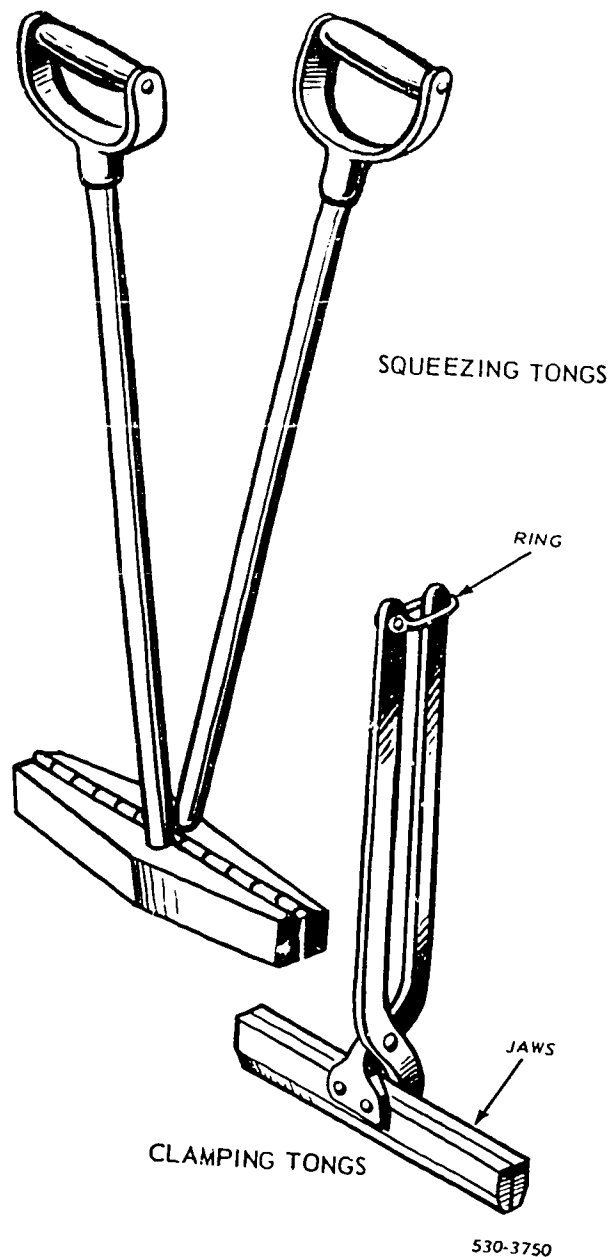

Figure 3-9. Roofing tongs.
**Roofing tongs.** Clamping tongs (fig. 3-9) are used to clamp seams to hold them in place. The ring on one handle can be slipped over the other handle to keep the jaws tight. This clamps the metal while you continue working. Use the squeezing tongs (fig. 3-9) to tighten seams. For *example*, they can be used to tighten the pocket of a standing seam before you make a double